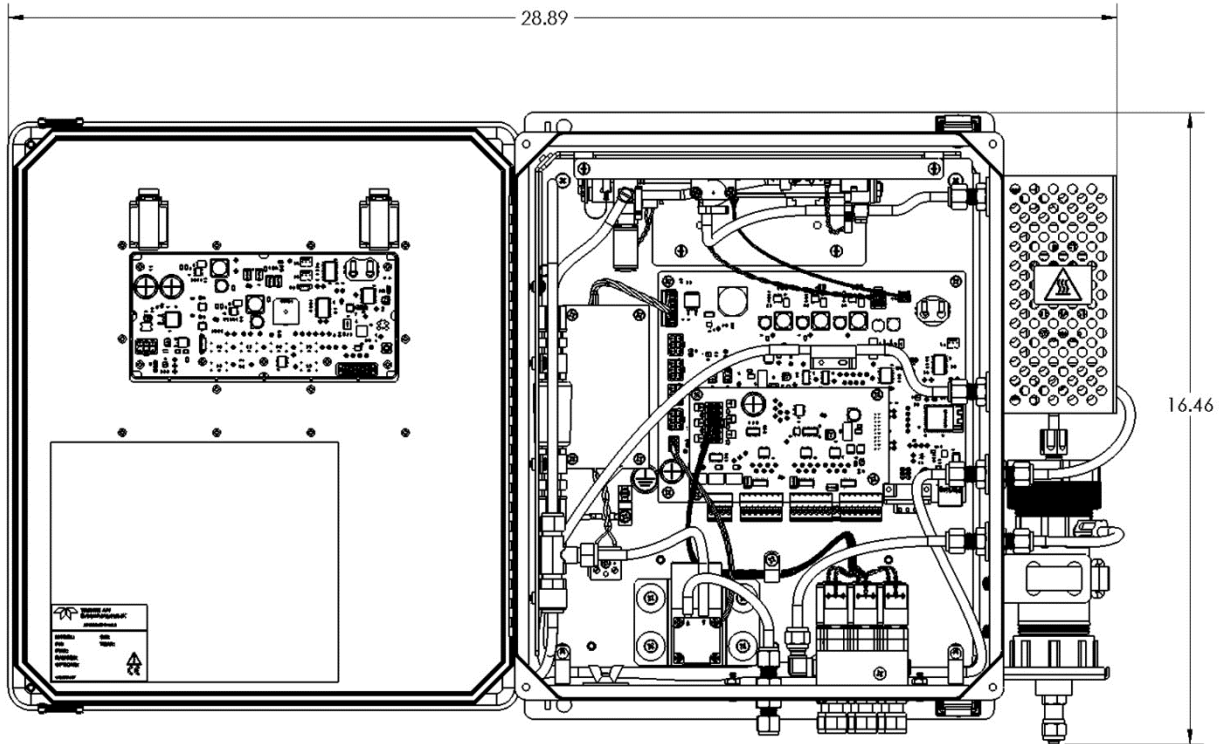

Figure 3-2. Mounting Hole Locations and Dimensions
- The illustrations in Figure 3-2 show the mounting dimensions and the locations of the four mounting holes, which are 0.32" (8.128 mm) diameter.